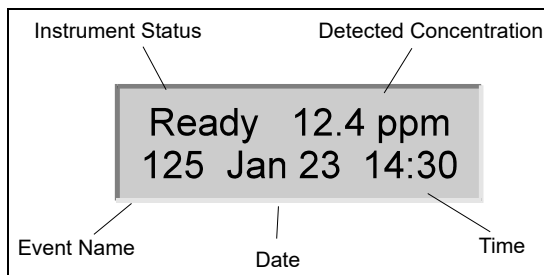

Figure 4 Default Display
4. The pump will start and MicroFID will then ignite the flame. You will hear a small pop when the flame has been ignited. Once the flame has been started the message “Detector flame has been started OK” will be displayed followed by the default display, shown in *Figure 4*.